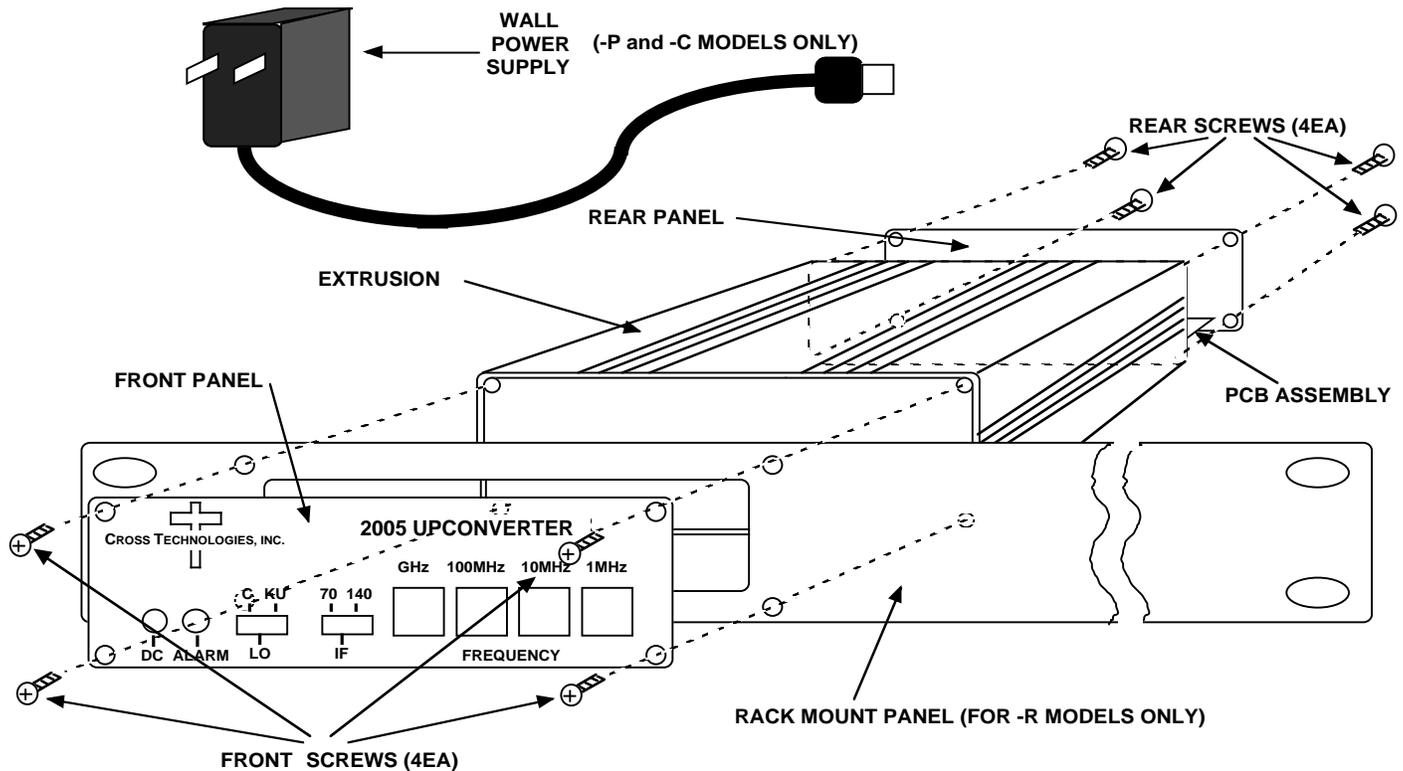

FIGURE 2.1 2005 Assembly Drawing
2.1 Mechanical - The 2005 is packaged in an aluminum extrusion. The **-R option** is mounted on a 1.75" X 19" panel that can be mounted to a rack using the 4 holes at the ends. The unit derives +DC from the RF out center conductor (+14 to +24 VDC) or the wall power supply (**option -P, option -C**) (+15V unregulated). See Figure 2.1.
- 2.) Remove four (4) **rear panel screws** (see Figure 2.1).
- 5.) Install four (4) **rear panel screws**.
- 3.) If using the wall power supply, connect it to the 2005 and the wall power supply to 115 VAC, 60 Hz (Figure 2.1).
- 4.) Connect a -10dBm (max.) signal to IF In, J1 (Figure 2.1, Figure 2.3).